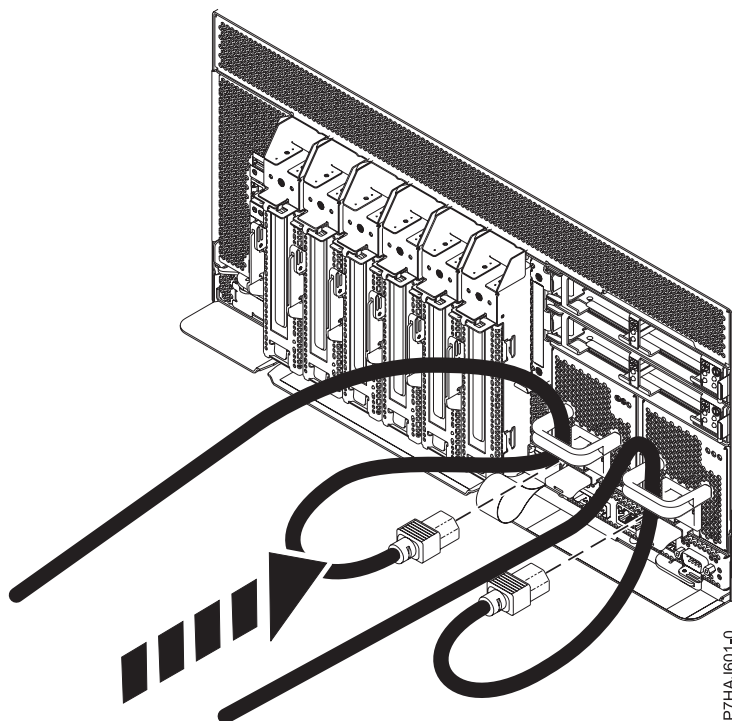

Figure 13. Connecting the power cords
2. Reconnect the power cord to the system unit as shown in Figure 13 on page 25. Ensure that the cords are threaded through the handles.